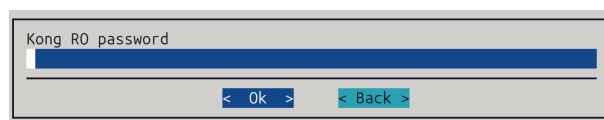

Figure 2.10: NetQ deployment: setting the read-only password
10. The Kong (NMX API) read-only password is set, if NVL Mode has been chosen (figure 2.10):